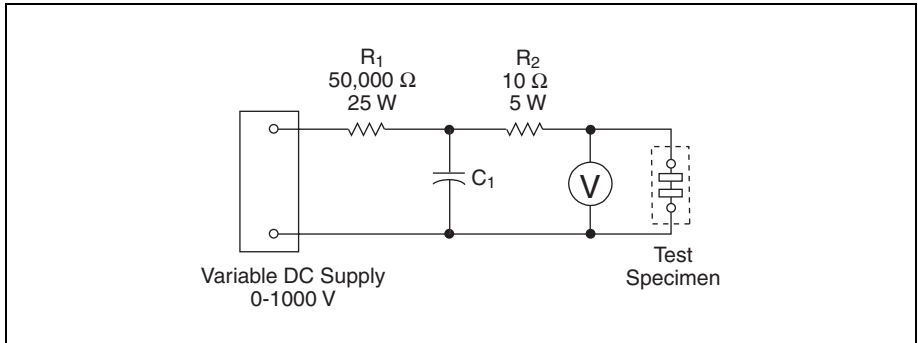

Figure 4.10 UL 497A Breakdown Voltage Measurement Test
2. Breakdown Voltage Measurement Test — Secondary protectors must break down within $\pm 25\%$ of the manufacturer's breakdown rating when tested in each polarity with a rate of voltage rise no greater than 2000 V/s . The secondary protector is to be mounted in accordance with the manufacturer's installation instructions and then subjected to the test circuit shown in Figure 4.10. This requirement applies only to secondary protectors connected between Tip and Ring or Tip/Ring and Ground of the telephone loop.